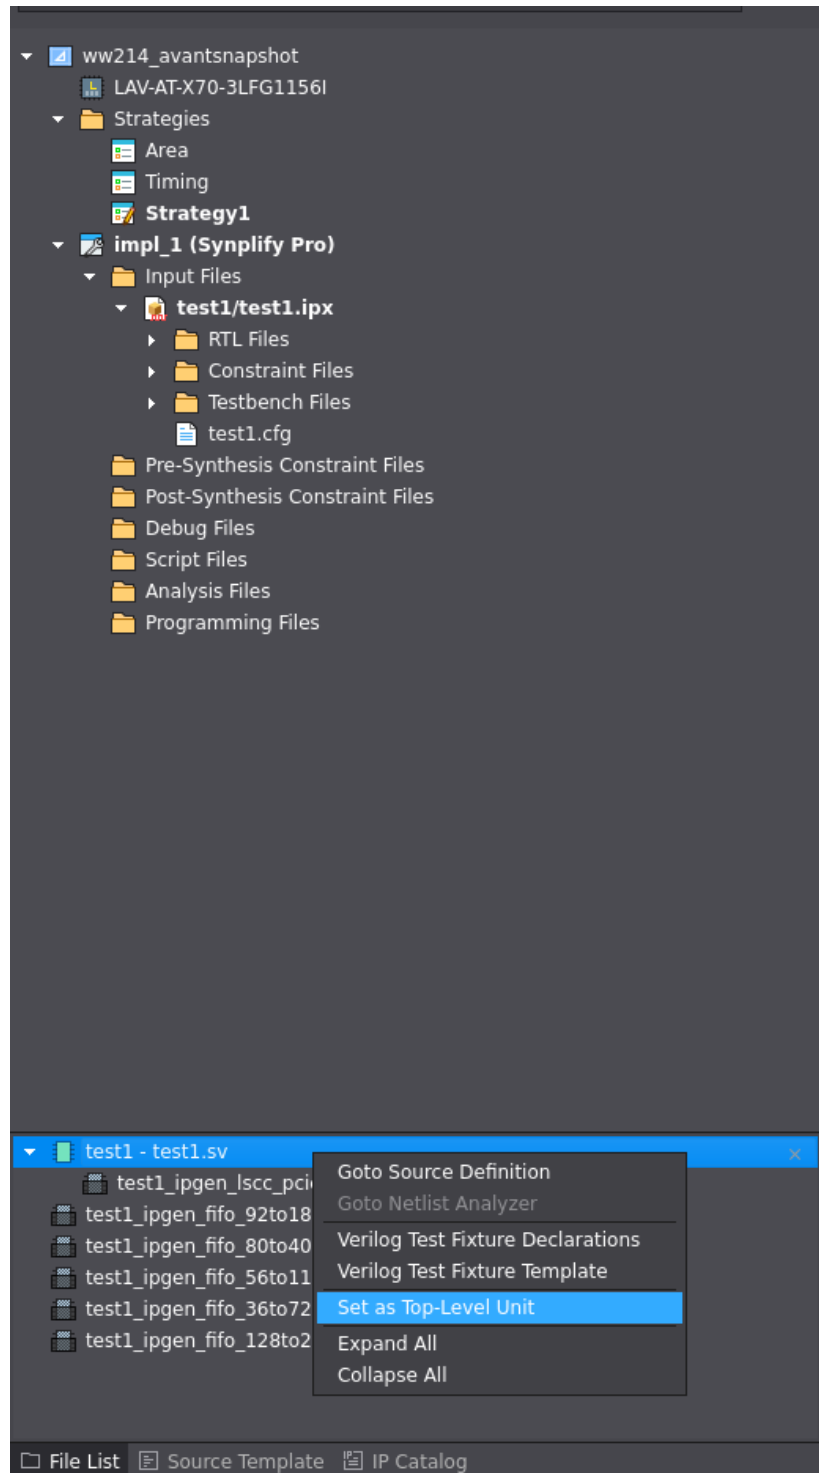

Figure 7.8. Set IP Top Level Unit
6. IP version 2.1.0 or below requires an additional step to set the IP top level. Right-click the IP name and select *Set as Top-Level Unit* shown in Figure 7.8.